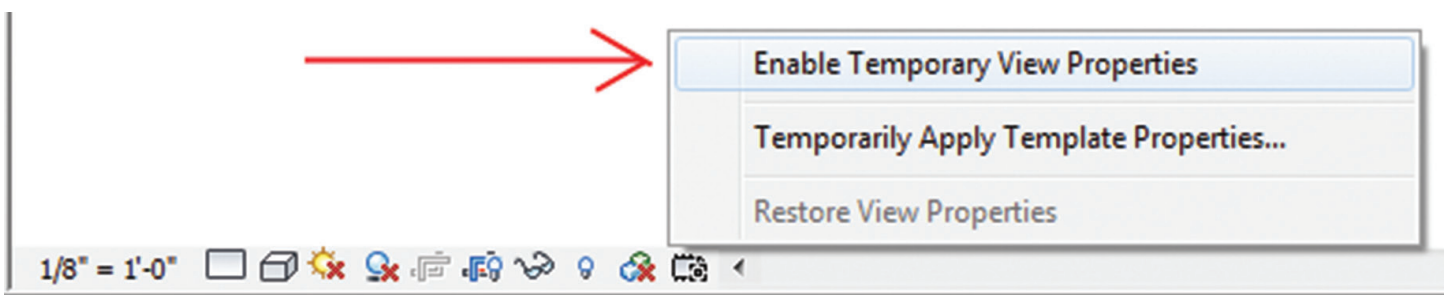

Figure 4 – Enabling Temporary View Properties
- Note: The Temporary View Properties button is located in the bottom of the Revit window, near the Scroll Left button – see Figure 4.